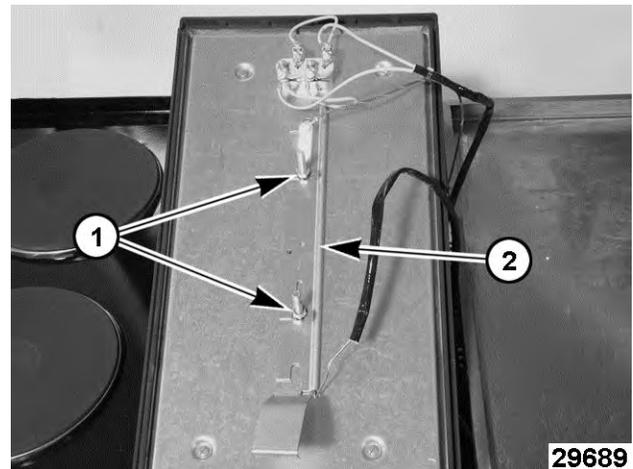

Fig. 28
6. Remove mounting nuts (1, Fig. 28) from thermostat bulb clamp (2, Fig. 28).